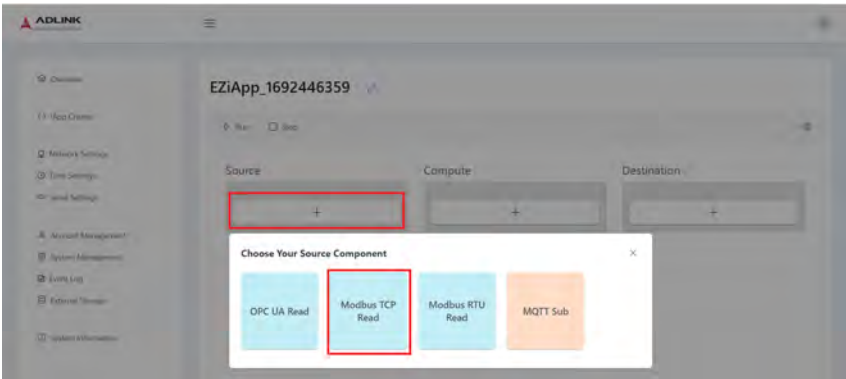
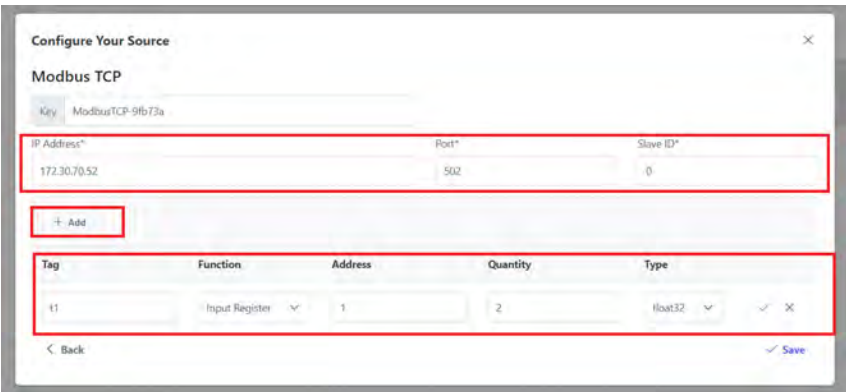

Figure 3-5: Create Modbus TCP
Figure 3-6: Configure Modbus TCP
1. **Modbus TCP Client (Master):** Use EGiFlow iApp's setup to create and configure the Modbus TCP client (master) functionality. Specify the Modbus server's IP address, port number, and other necessary parameters. EGiFlow iApp provides an interface to define the data registers to be read from the Modbus server. (See Figure 3-5 and Figure 3-6)